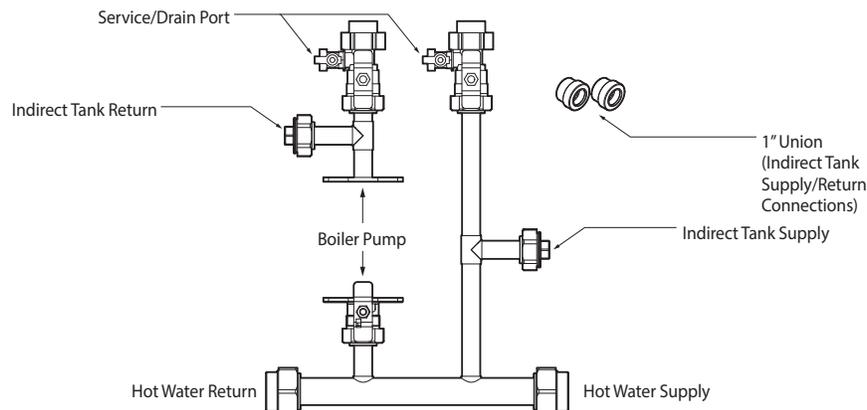

Figure 3. Available Ports on the NHB-H Series Primary Manifold
- An additional accessory, an indirect tank, can be installed in the additional ports below (see FIGURE 3). Stub outs are provided for the direct connection of an indirect water heater. Refer to the NHB-H Installation and Operation Manual for accessory piping and wiring requirements.